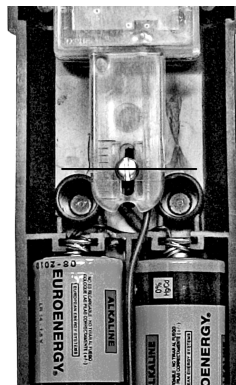

Fig 1: Sensor mounting screw in the centre of the adjustment slot.
- G) Before replacing the cover ensure that each of the 2 sensors is still correctly positioned, with the mounting screw over the middle line of the adjustment slot. (see **Fig 1**) (They sometimes can move during shipping or during the mounting process)
- C) Ensure that each of the 2 sensors is correctly positioned, with the mounting screw over the middle line of the adjustment slot. (*see fig 1*)